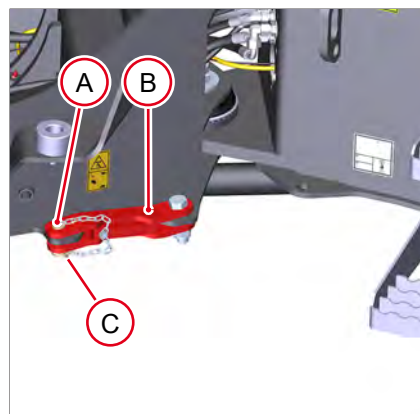

Fig. 174: Buckling support not inserted
1. Install the buckling support see Loading on page 130(see Fig. 174 on page 130).